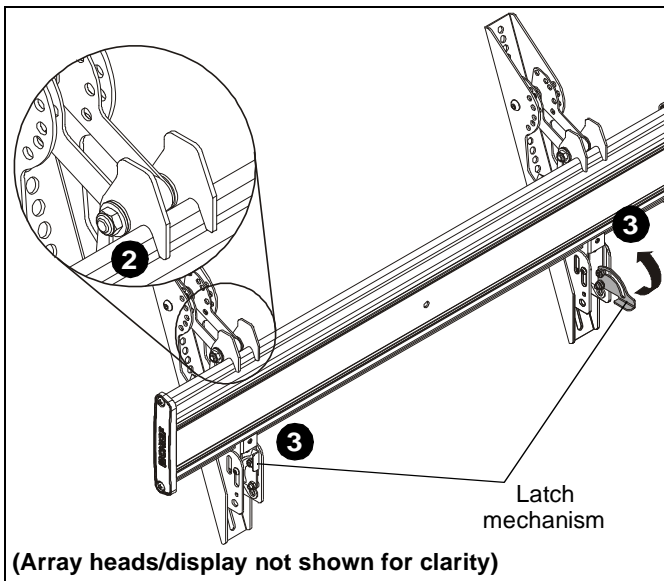

Figure 15
2. While supporting both sides of display, lower display onto center of ceiling mount, hooking top of interface brackets onto front of ceiling mount. (See Figure 15)
3. Raise the latch mechanism on both interface brackets to lock bracket in place. (See Figure 15)